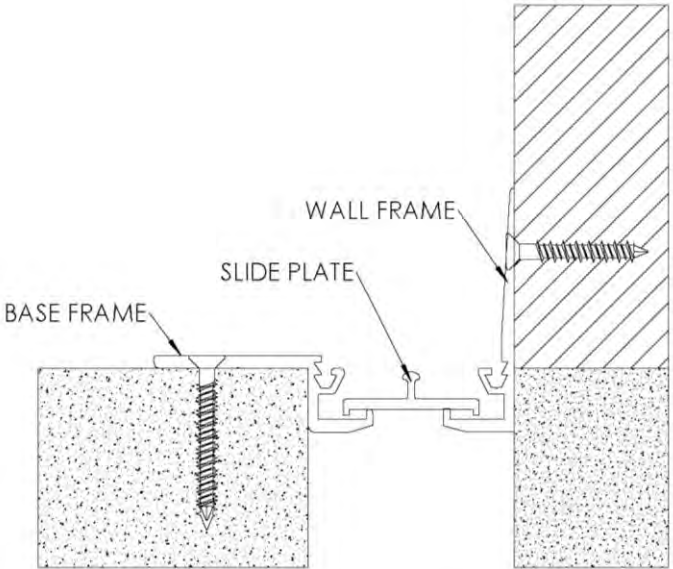

FIGURE 3
- 3. Place slide plate (not required on 1" joint sizes) in the lower channel of the base frame and wall frame with the bent ends of the plate pointing downwards. **See Figure 3**